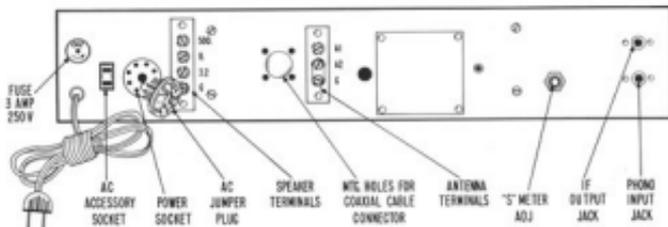

Fig. 1. Rear View of Receiver
**NOTE:** The receiver will not operate from an AC source unless the AC JUMPER PLUG is inserted in the POWER SOCKET at the rear of the receiver. (See Fig. 1.)